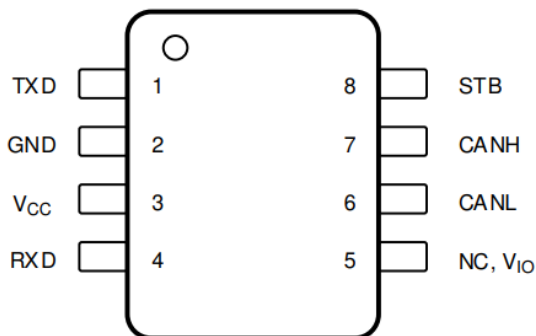

Figure 4-1. SOIC (D) Pin Diagram
Figure 4-1 shows the TCAN1472-Q1 and TCAN1472V-Q1 SOIC (D) pin diagram.